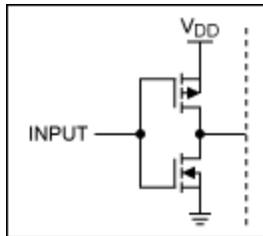

Figure 1. A typical CMOS input circuit.
**Figure 1** shows a simple CMOS circuit. It is complementary (N and P devices), (hence the name complementary metal oxide semiconductor). It is ones and zeros and so simple. At any given moment, one device is on, the other is off. What could possibly go wrong? It turns out there are some conditions that can cause the circuit to draw quite a lot of power.